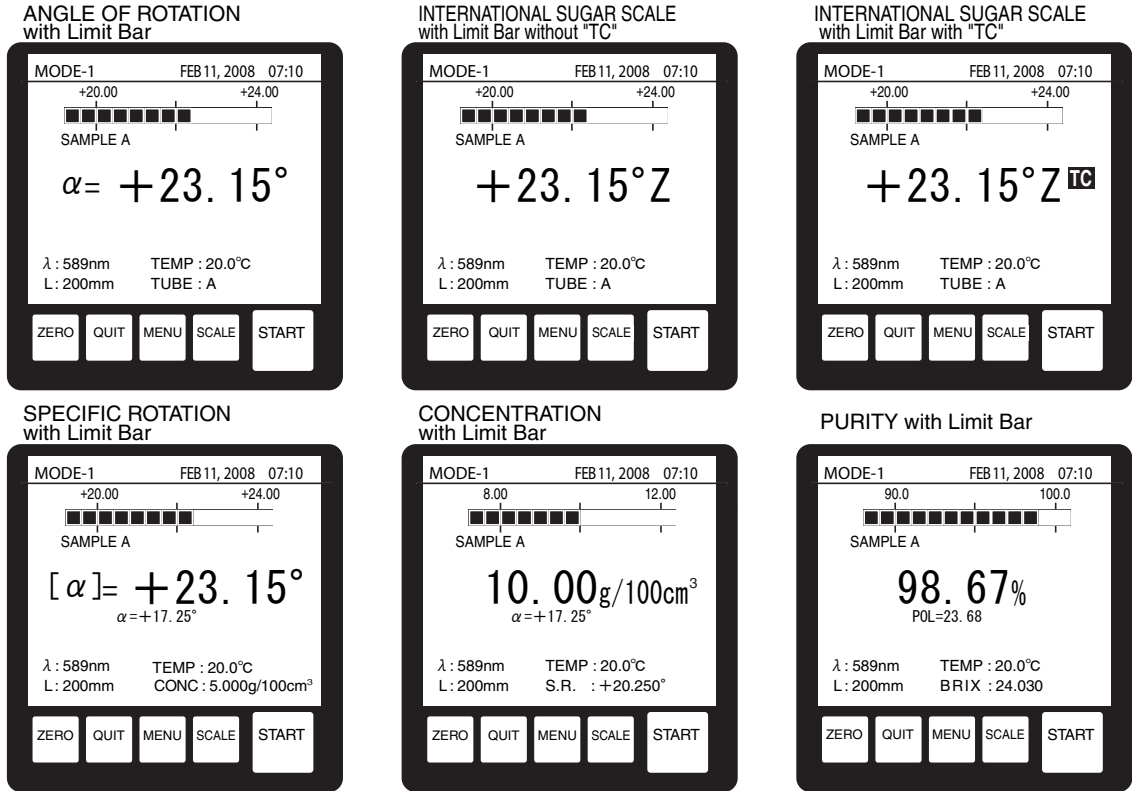

Fig.6-2
(1)-2 With the Limit bar (Fig.6-2)